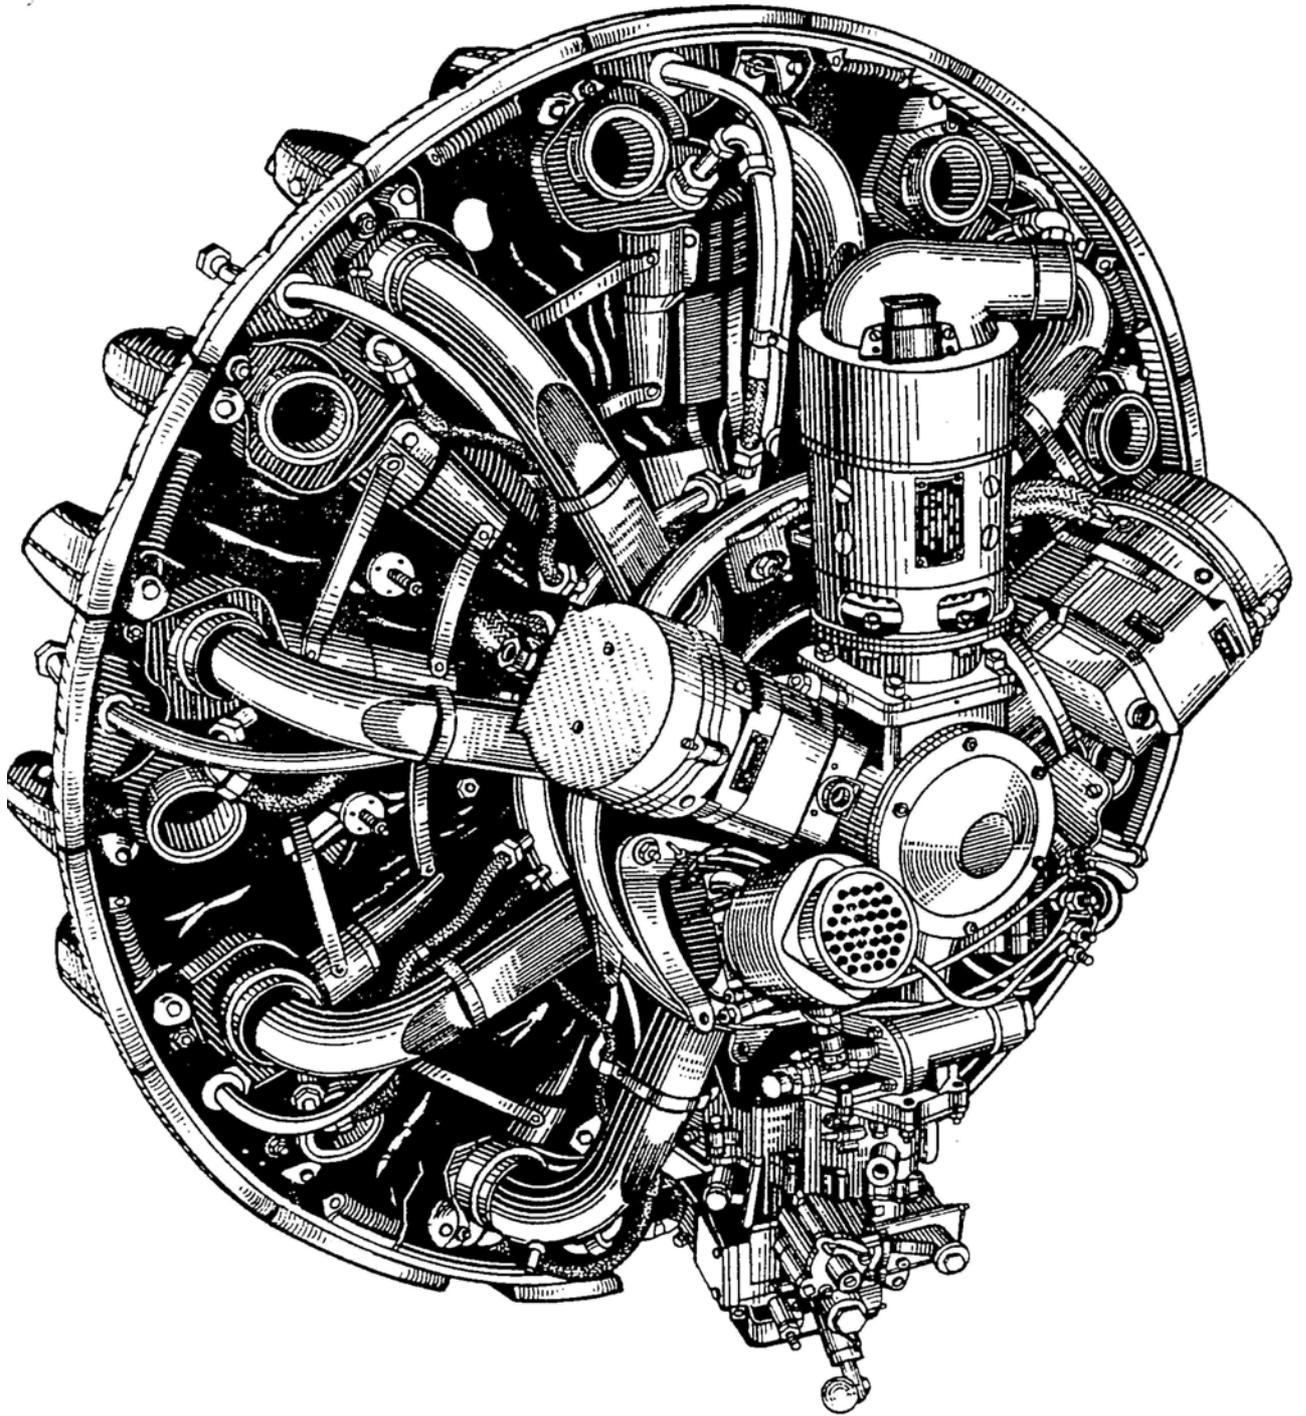

Fig.2 – REAR VIEW
- Rear View -The observer stands behind the engine (fig.2).